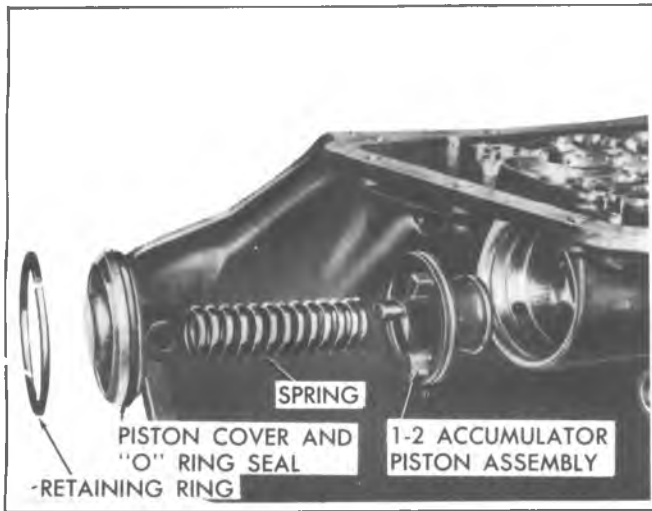

Fig. 7A-54B--Intermediate Clutch Accumulator Components
29. Remove intermediate clutch accumulator piston assembly (fig. 7A-54B).